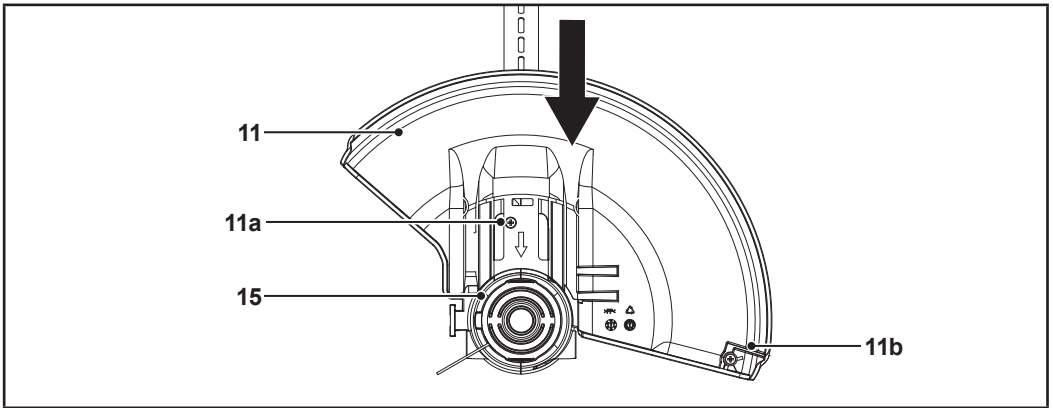

Fig. 1
1. Slide the guard (11) into the sliding slots of the cutting head (15) (Fig. 1).
2. Fix the guard (11) with the screw (11a) (Fig. 1).